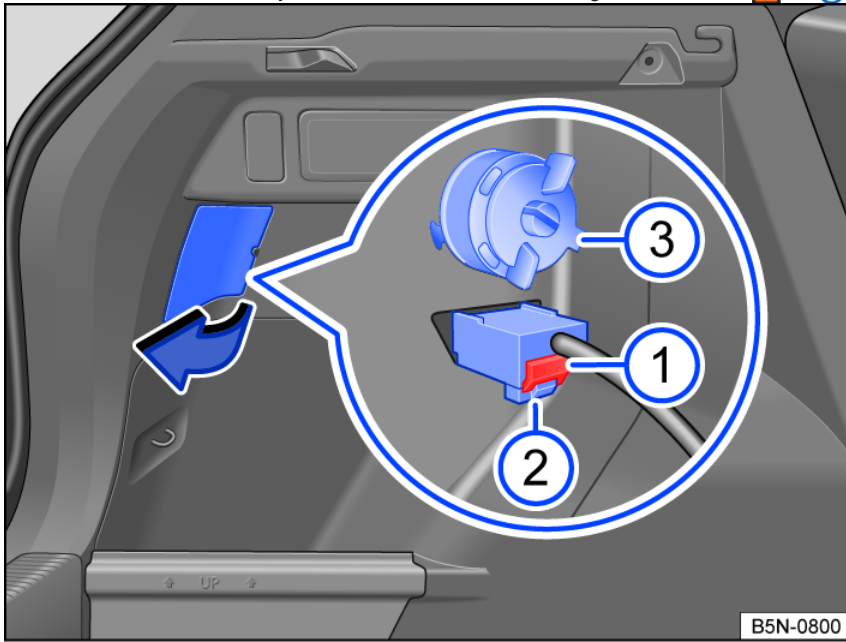

Fig. 177 Side of the luggage compartment: removing the taillight.
3. Open the section of the side trim panel in the luggage compartment near the taillight in the direction of the arrow *fig. 177*.
4. Remove the red locking mechanism *fig. 177* ① on the connector and remove the connector ②. If necessary, use a suitable tool to help loosen the red locking mechanism.
5. Remove the screw counterclockwise *fig. 177* ③.
2. Hold the taillight in the installation position with one hand and tighten the screw with the other hand *fig. 177* ③.